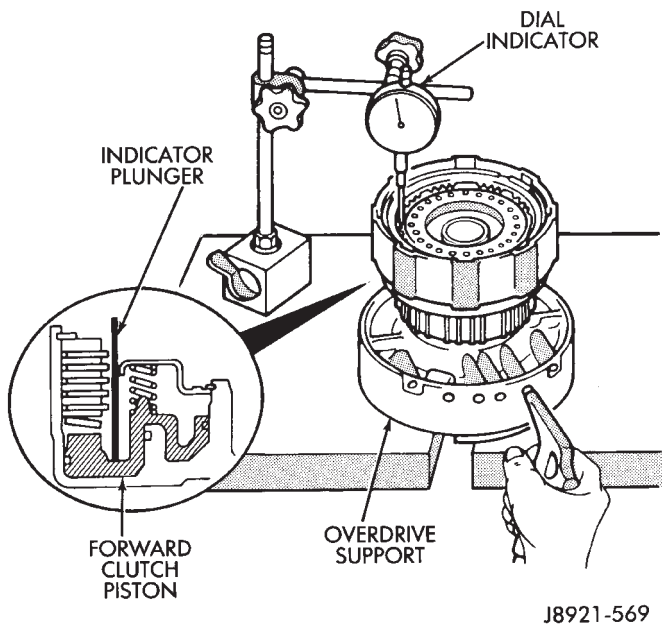

Fig. 3 Checking Forward Clutch Piston Stroke Length
- (4) Mount dial indicator on clutch drum. Position dial indicator plunger against clutch piston (Fig. 3).
- (5) Apply compressed air through right side feed hole in support and note piston stroke length on dial indicator.
(6) Stroke length should be 3.55 - 3.73 mm (0.1348 - 0.1469 in.).
- (7) Replace clutch discs if stroke length is incorrect.